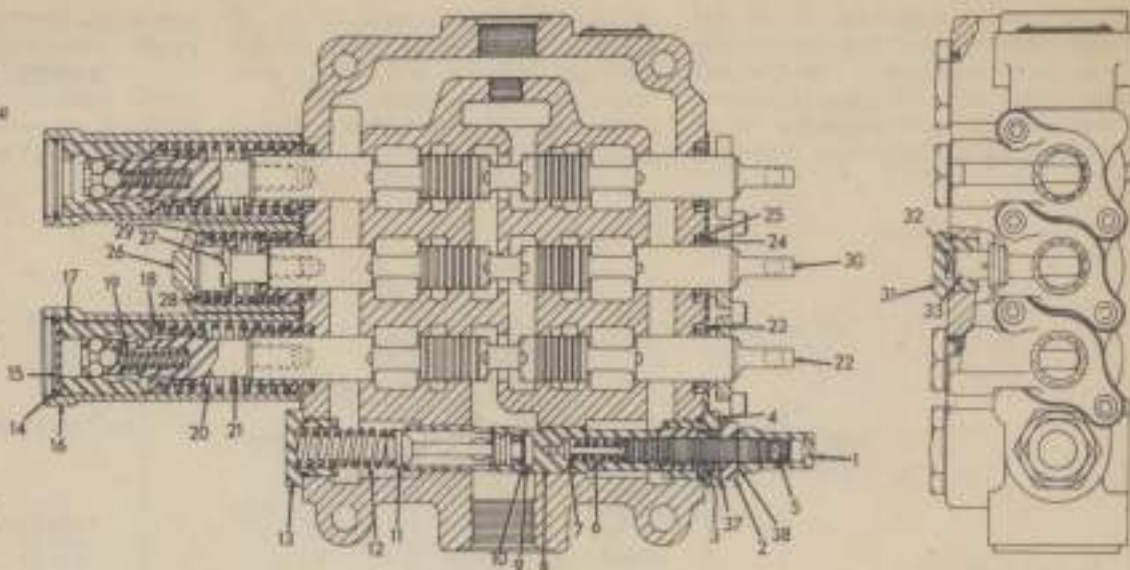

Fig. 181—Cross sectional view of three spool control valve for use with high volume (25GPM) pump available on D-15 tractors.
**272.** The three spool remote control valve used on D-15 tractors equipped with the optional high volume pump is shown in Fig. 181. The center control valve (30) is not provided with float position. Number one and three